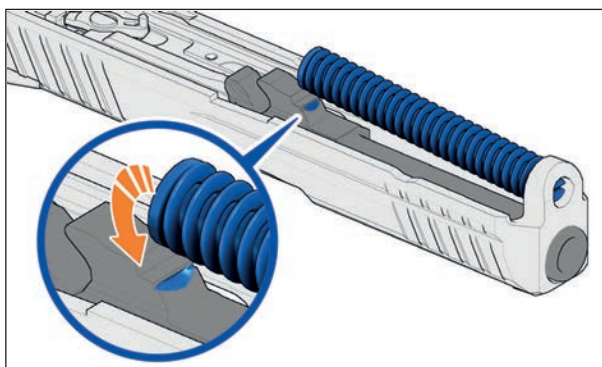

*Figure 20 – Removing the recoil spring*
4. Turn the slide upside down and carefully push the recoil spring forward and out to either the left or right side, separating the recoil spring from the barrel and slide (see Figure 20).